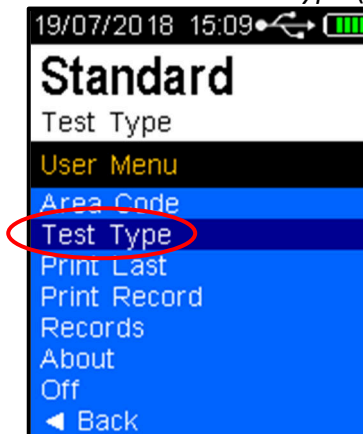

Figure 14 - Test Type Displayed
- Press the down button to scroll down to *Test Type* (Refer to Figure 14).